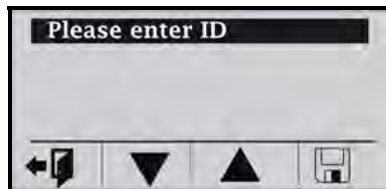

Figure 22: Enter ID for Hours
- Use the Function buttons as indicated underneath the display to move Up  and Down  to highlight "View Hours" and press **enter enter** on the keyboard to select and the screen change to the following (see **Figure 22**).